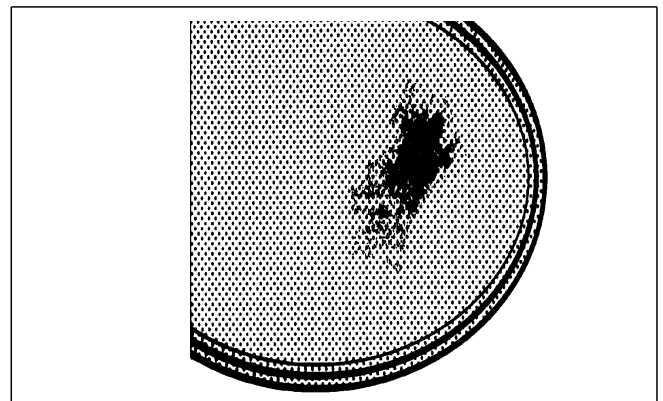

FIG. 4
razor scraper (fig. 4); **be aware that the razor can cause wounds.**
- After a period of time may appear metal reflex and scratches (fig. 4) due to the wrong cleaning and the wrong use of the pots. The scratches are difficultly removable, but they do not compromise the good working of the hob.